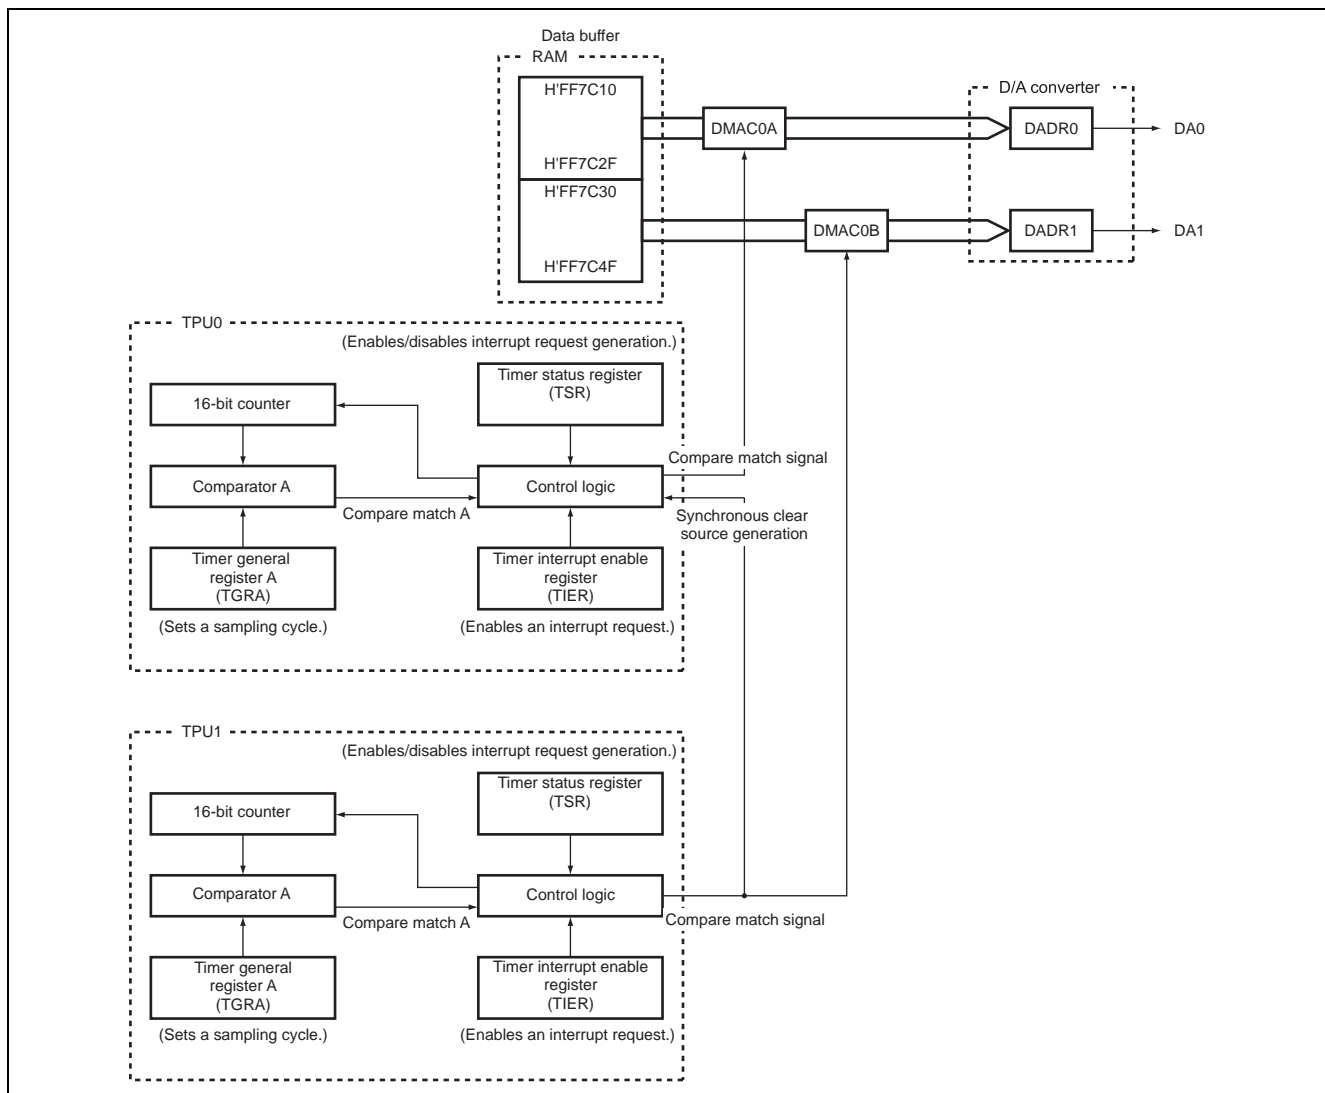

Figure 2 Block Diagram of Analog Output Circuit
- The block diagram of the DMACs, D/A converter, and TPUs to be used by this sample task is shown in figure 2. This sample task uses the H8S/2339 function as follows to perform D/A conversion: